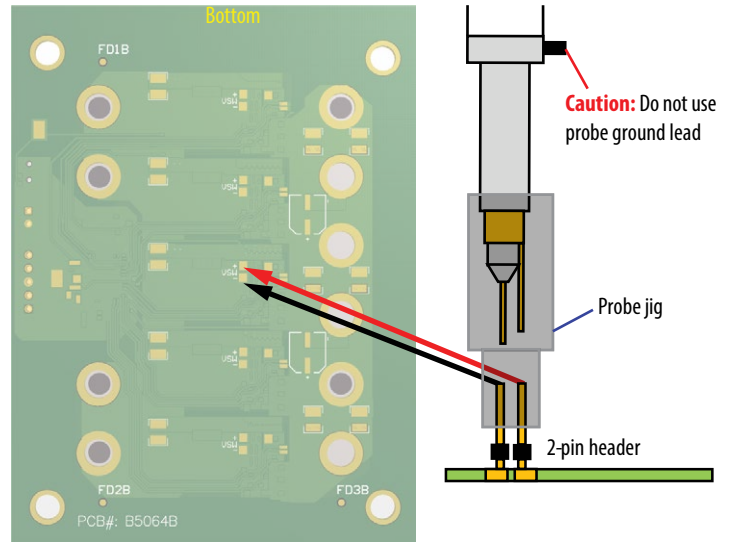
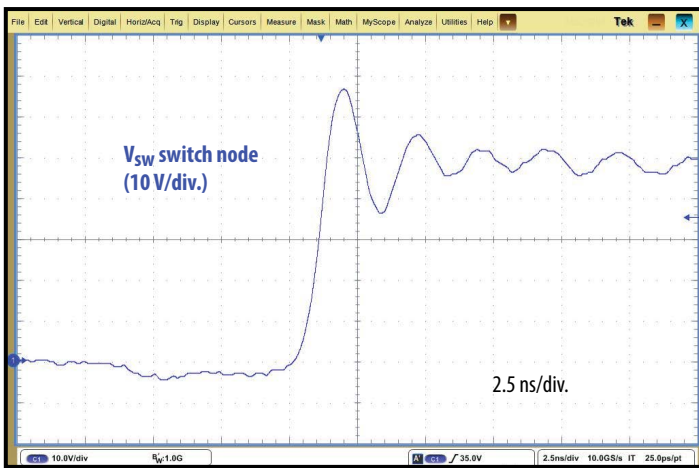
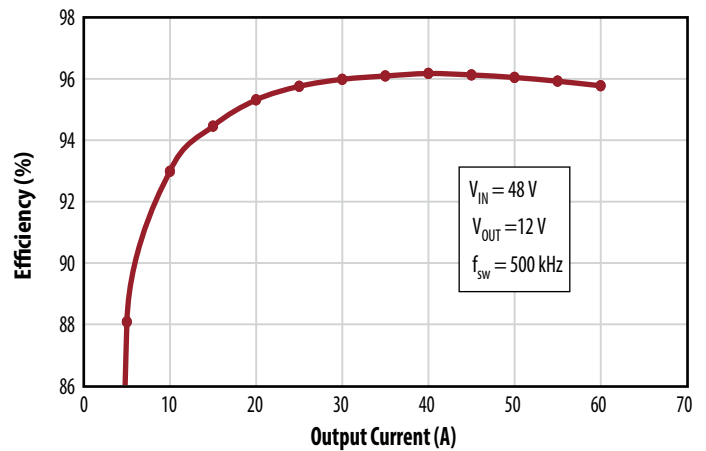

Figure 3: Optional Switch Node Measurement (Bottom)
Figure 4: Typical switch node waveforms taken at 48 VIN to 12 VOUT/50 AOUT
Figure 5: Typical efficiency curve. 48 V to 12 V.
**NOTE.** When measuring the high frequency content switch node, care must be taken to avoid long ground leads. Measure the switch node by using a probe jig with the oscilloscope probe tip. Refer to figure 3 for proper scope probe technique.
The EPC9130 demonstration circuit was designed to showcase the size and performance that can readily achieved using eGaN FETs. Figure 4 shows typical full-load waveforms under 400 LFM (2 m/s) for a 48 V input voltage, unless otherwise noted, using probe tip adapters as shown in Figure 3. Figure 5 shows efficiency plots for 48 V input voltage at 25°C.